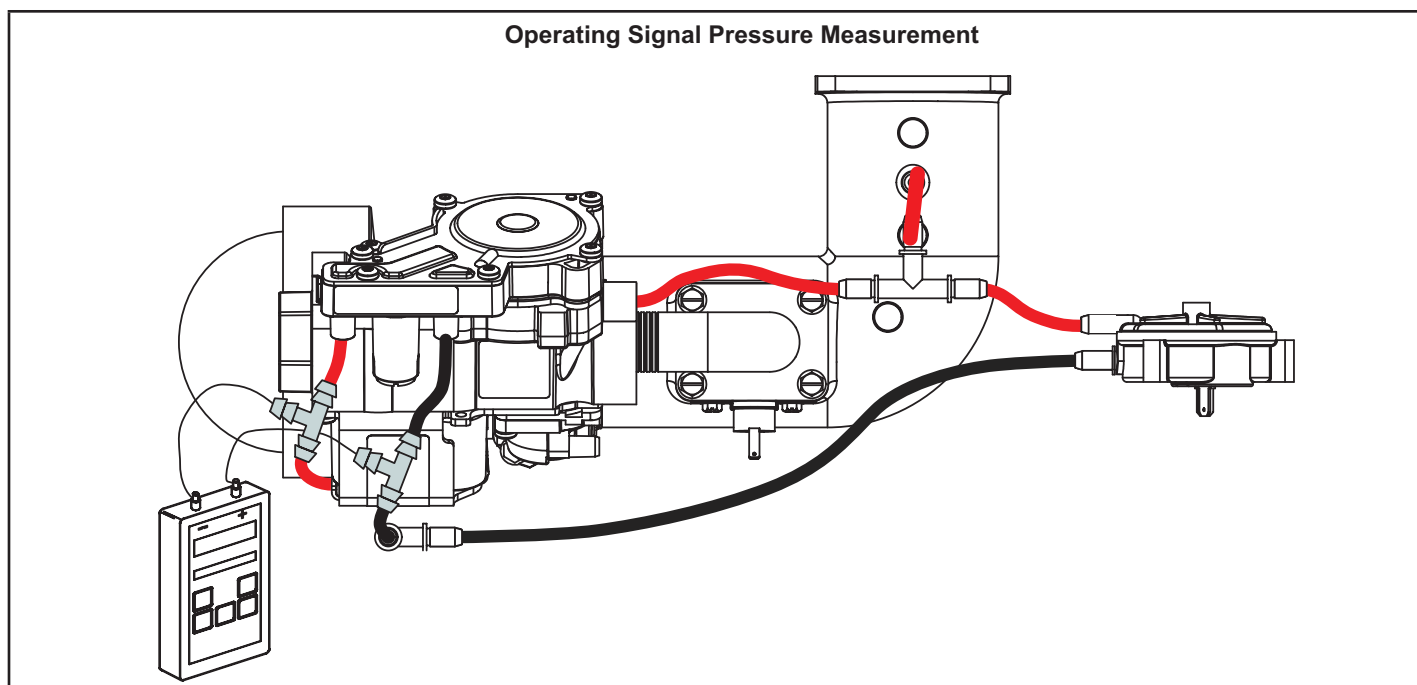

FIGURE 20
- 3 - Install hoses and meter as shown in FIGURE 20 for signal pressure measurement.